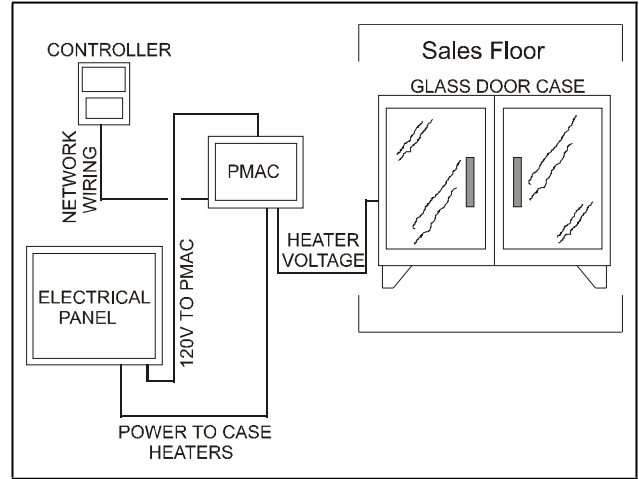

Figure 2-3 - Typical Layout
The following steps provide location and wiring instructions for the PMAC II panel. **Figure 2-3** shows this typical layout. **Figure 2-5** shows the PMAC II internal wiring connections.
2. Provide 120 VAC (15 amp circuit) to the PMAC II panel through a store circuit breaker. See the layout design in **Figure 2-3**.